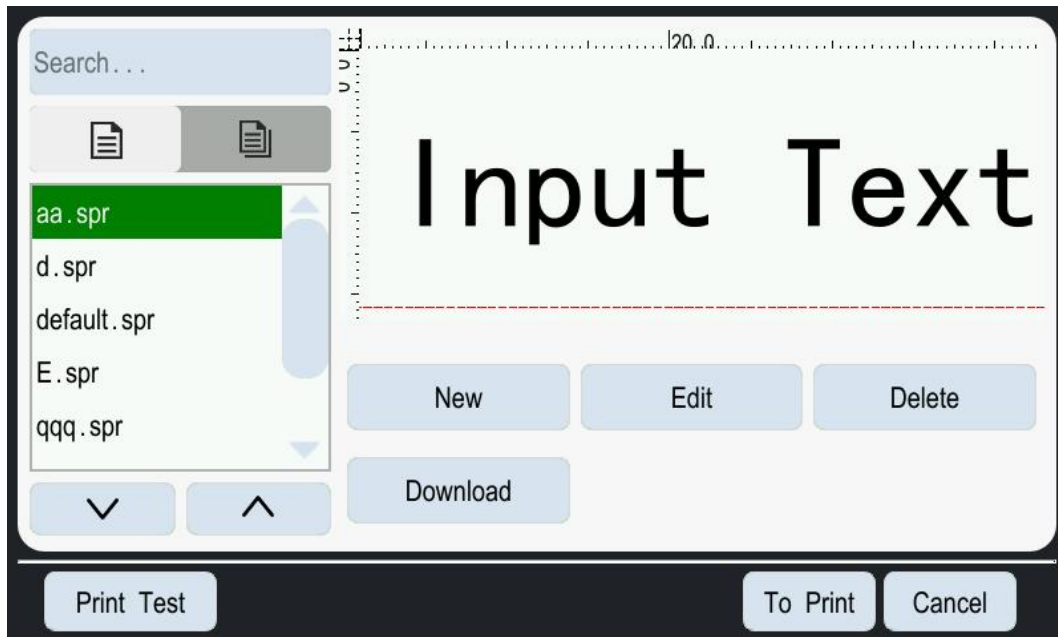

Figure 5-16 Load file interface
1. The operation interface for loading files is shown in Figure 5-16. After you **Delete** select a file, click the button to delete the selected file.